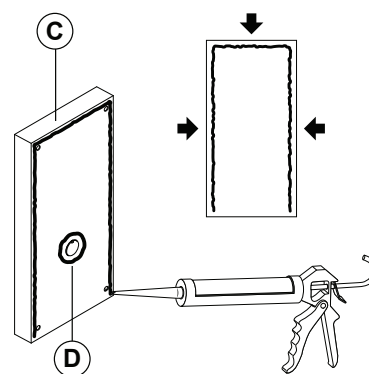

Fig. 48
**In order to prevent water ingress we highly recommend using a silicon sealant between the wall and the back box **(C)**, ON THE LEFT, TOP AND RIGHT SIDES ONLY AND AROUND ALL THE HOLES **(D)**. DON'T USE SILICON SEALANT ON THE BOTTOM SIDE OF THE BACK BOX (Fig.48);**